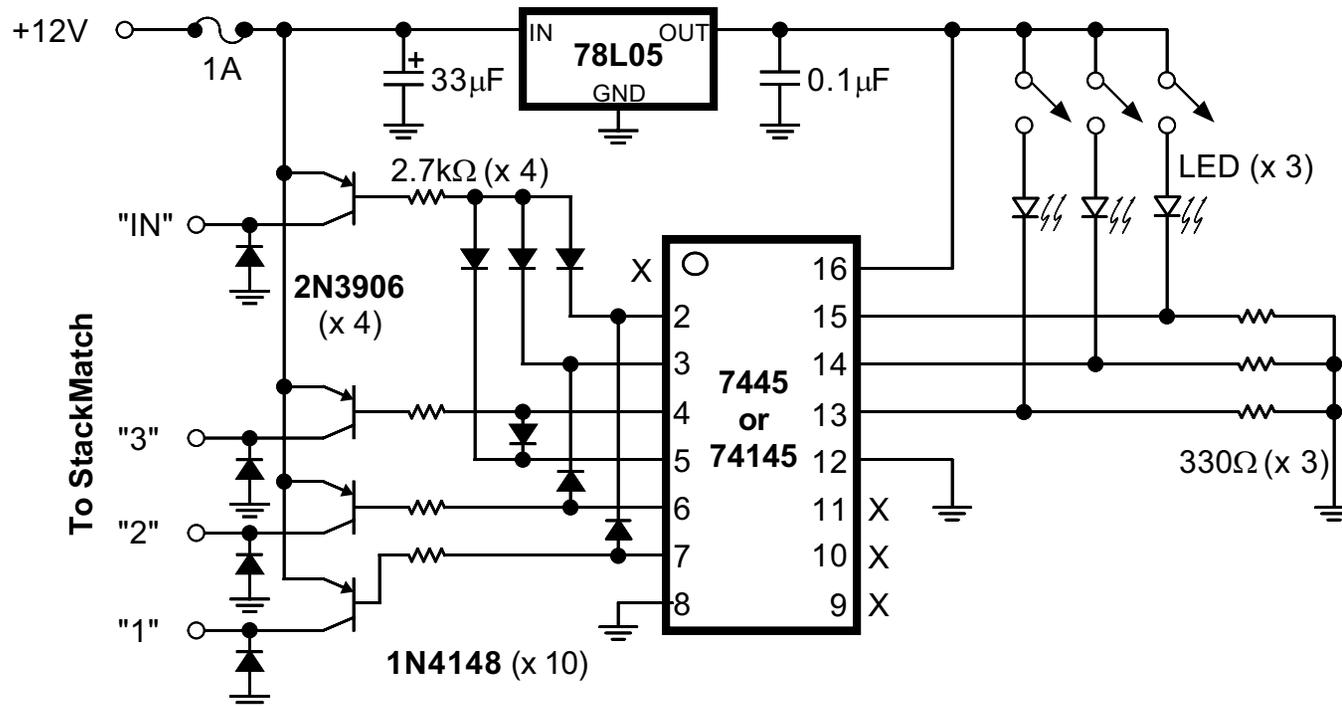

Figure 2. Three-Stack Controller using PNP output Transistors.
Circuit implementation is shown in Figure 2 and Photo 1. An old-style TTL gate with high voltage open collector outputs, the 7445 (outputs rated to 30V) or the 74145 (outputs rated to 15V maximum) is used, along with some signal diodes to complete the logic. Please note the 330 $\Omega$  resistors connected to the switches are semi-critical; much higher values cause the low-state input voltage to exceed TTL specs, and smaller values allow too much current through the LEDs. Precision resistors are definitely not required. At only about 40mA per output, the StackMatch is not a difficult load to drive, and "garden variety" PNP switching transistors like the 2N3906 are suitable. Figure 3 shows a number of different output circuits: build with whatever component types you have available. The options using relays are less likely to suffer damage from nearby lightning strikes. Table II shows the measured current drain of my prototype using a 7445 and PNP Darlington outputs.
*Table II. Current Drain (Figure 2),  $V_{IN} = 13.6V$*